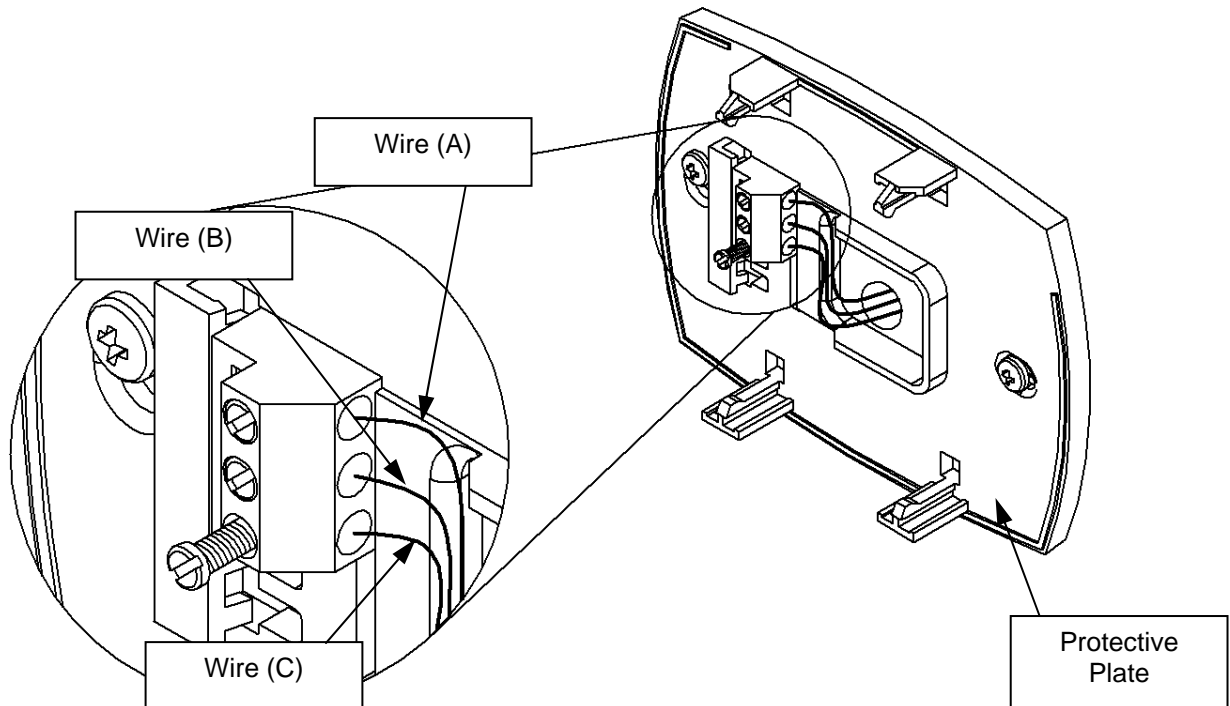

Figure 24
Step 19: Using wire (C), insert one end into the bottom terminal location on the Protective Plate. This is shown in Figure 24.